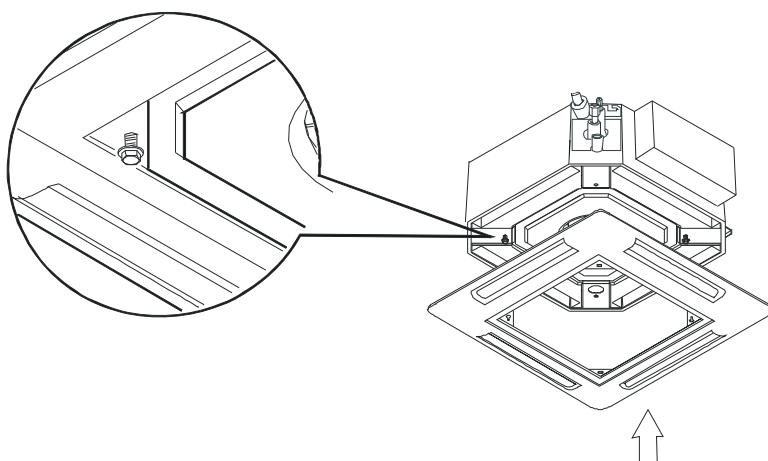

Fig. 17
3. Tighten 4 screws as shown in Fig 17,18